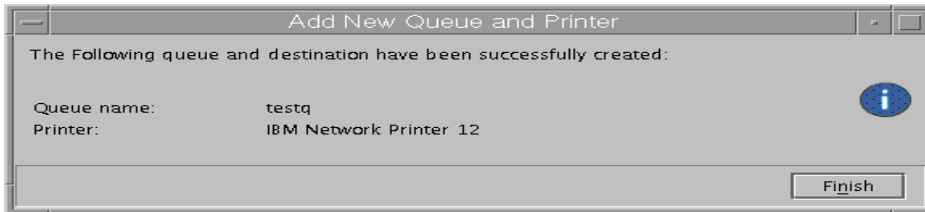

Figure 34. A success notice
13. Finally, you will have a confirmation notice, as shown in Figure 34, to let you know this queue has been successfully created. Click **Finish** to finish this job.